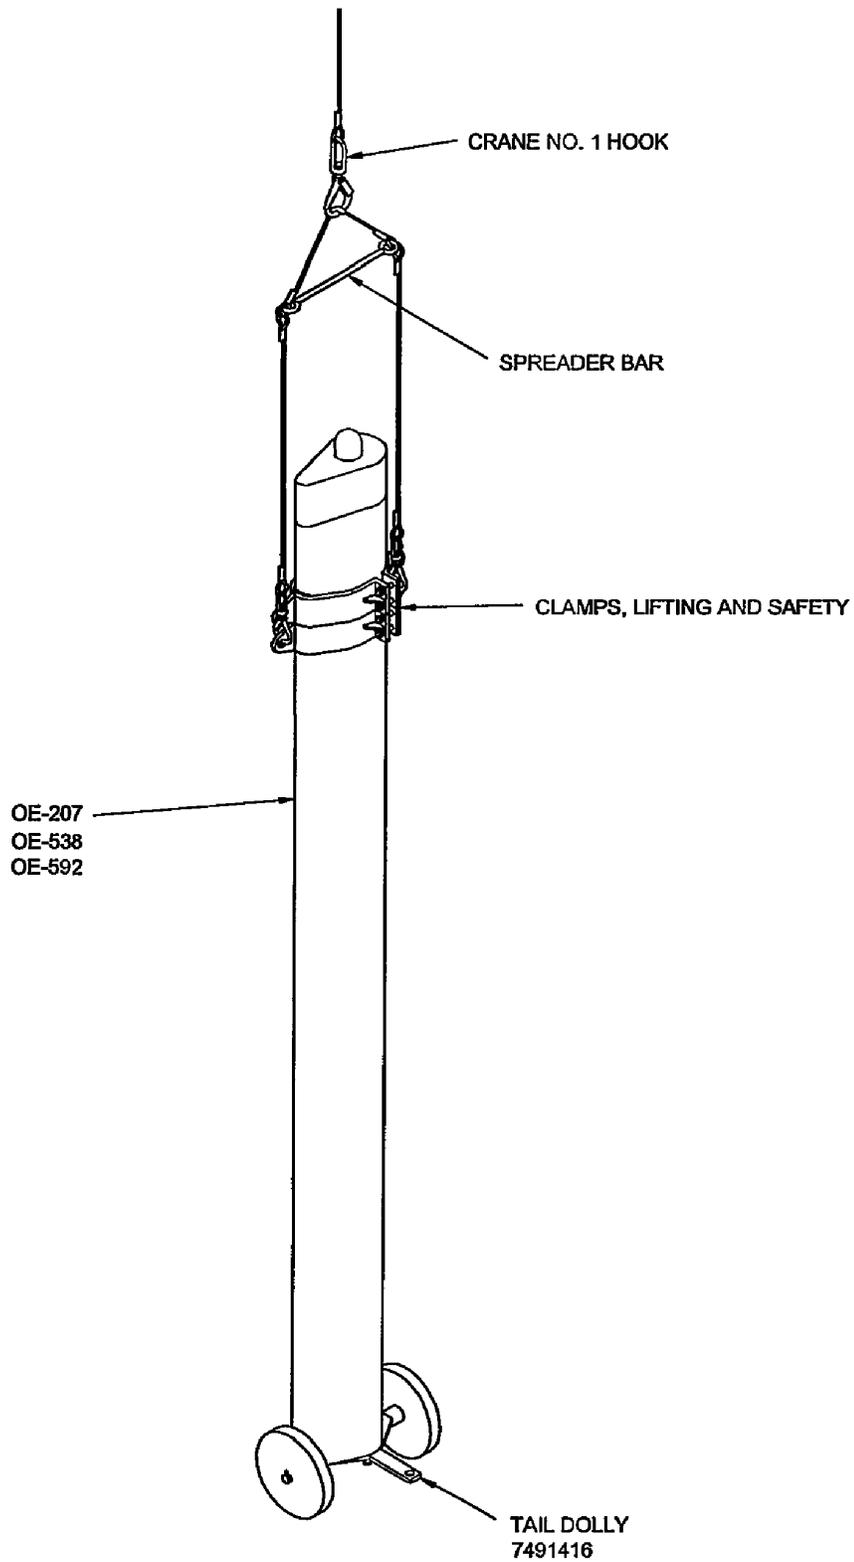
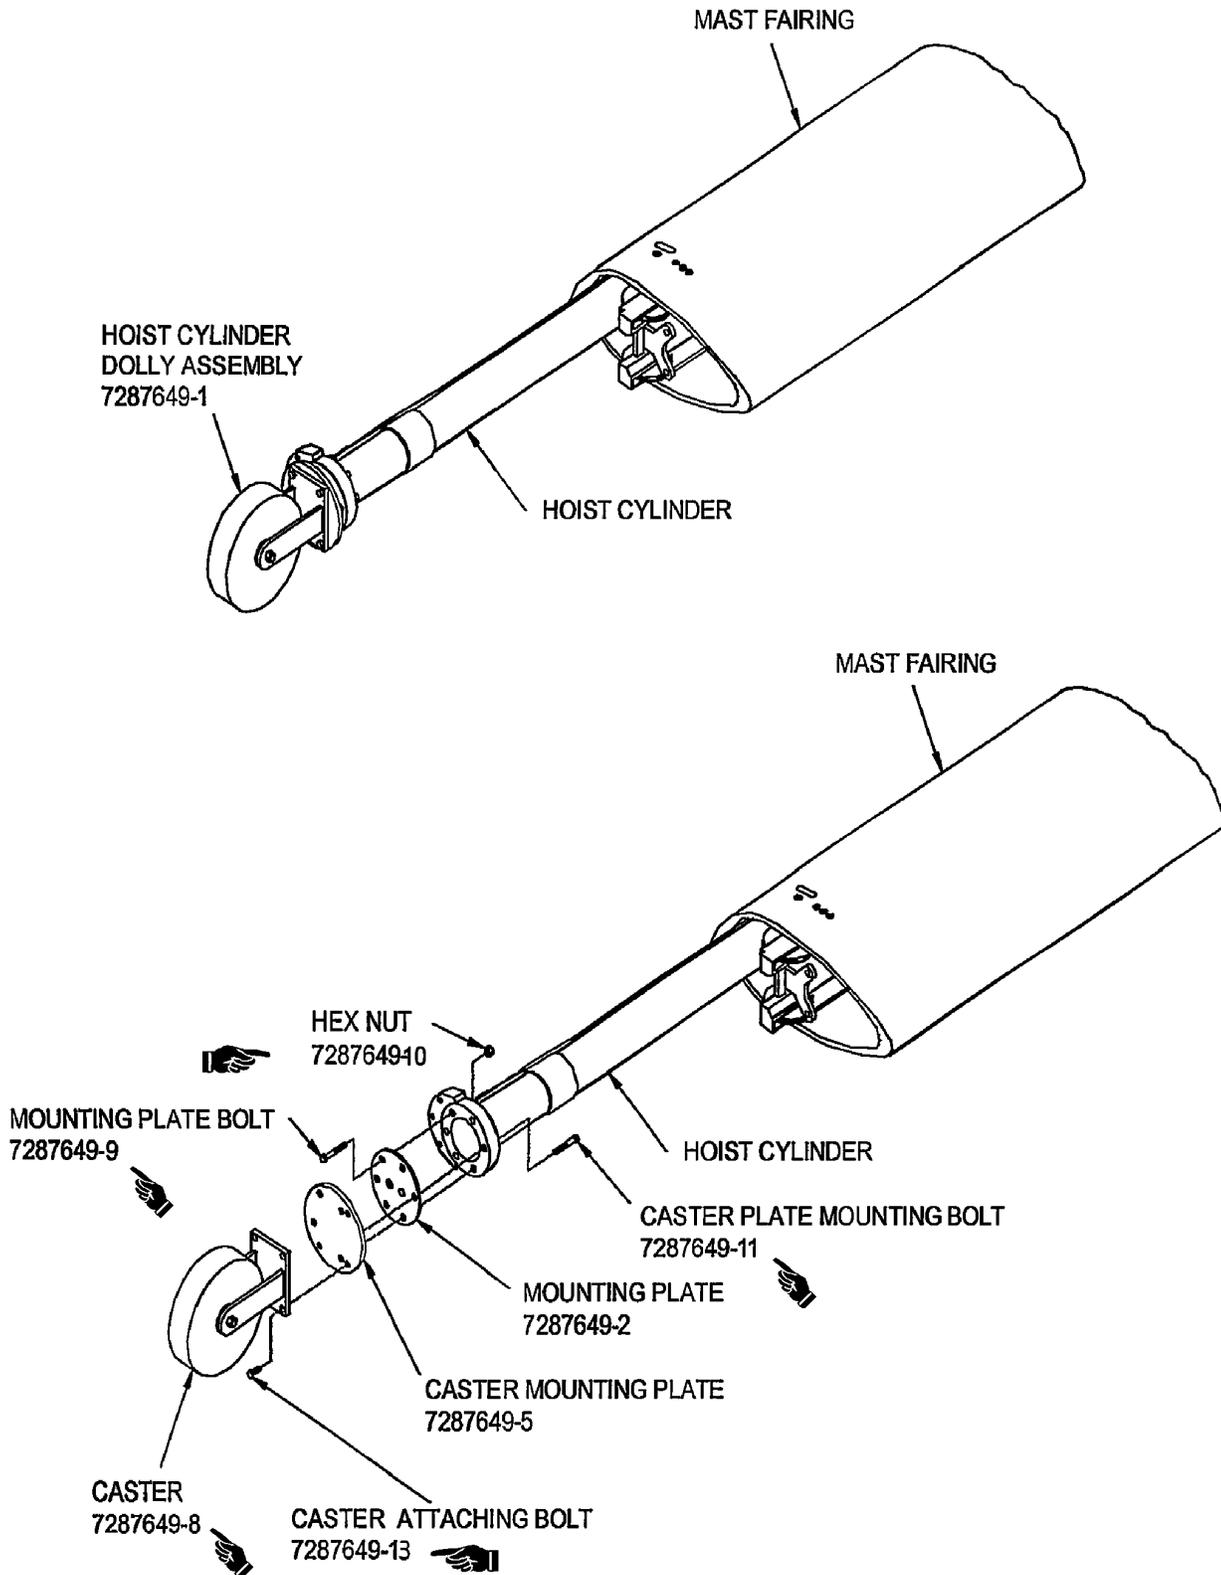

Figure 4-15 Tail Dolly Lifting Arrangement for OE-207, OE-538, or OE-592 Antenna
Figure 4-16 Installation of Hoist Cylinder Dolly
1. Rotate the antenna tail dolly around the antenna connector, so that the semicircular mounting ring is positioned port or stbd. See Figure 4-15
4.13.2 INSTALLATION OF HYDRAULIC HOIST CYLINDER DOLLY. The method for installation of the hydraulic hoist cylinder dolly is given below and is illustrated in Figure 4-16.
3. Paragraph 5.2 only applies to the antenna (see Figure 4-15) and 2-7/8" diameter hoist cylinder (see figure 4-16).